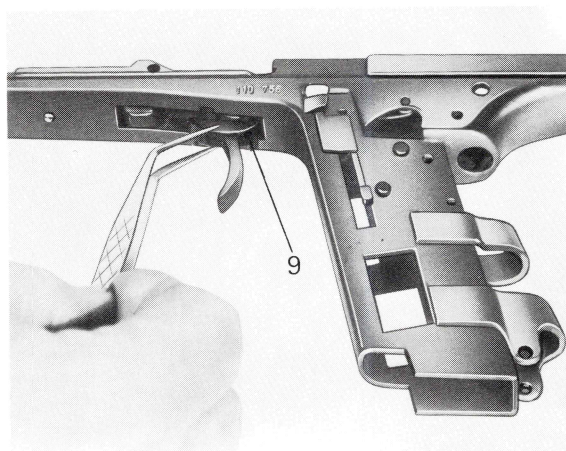

Fig. 32
- Introduce the insert piece (9) with its semi-circular surface downwards so that both lugs are towards the right-hand side of the receiver, looking towards the muzzle end (Fig. 32).